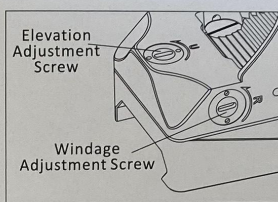

Fig 8
- 2) The Elevation adjustment is located on top of the tail section of the housing and the Windage adjustment is located on the right side of the housing. Adjustment can be performed by inserting the flat-tipped end of the included tool into the turret slot and rotating, See Fig 8.